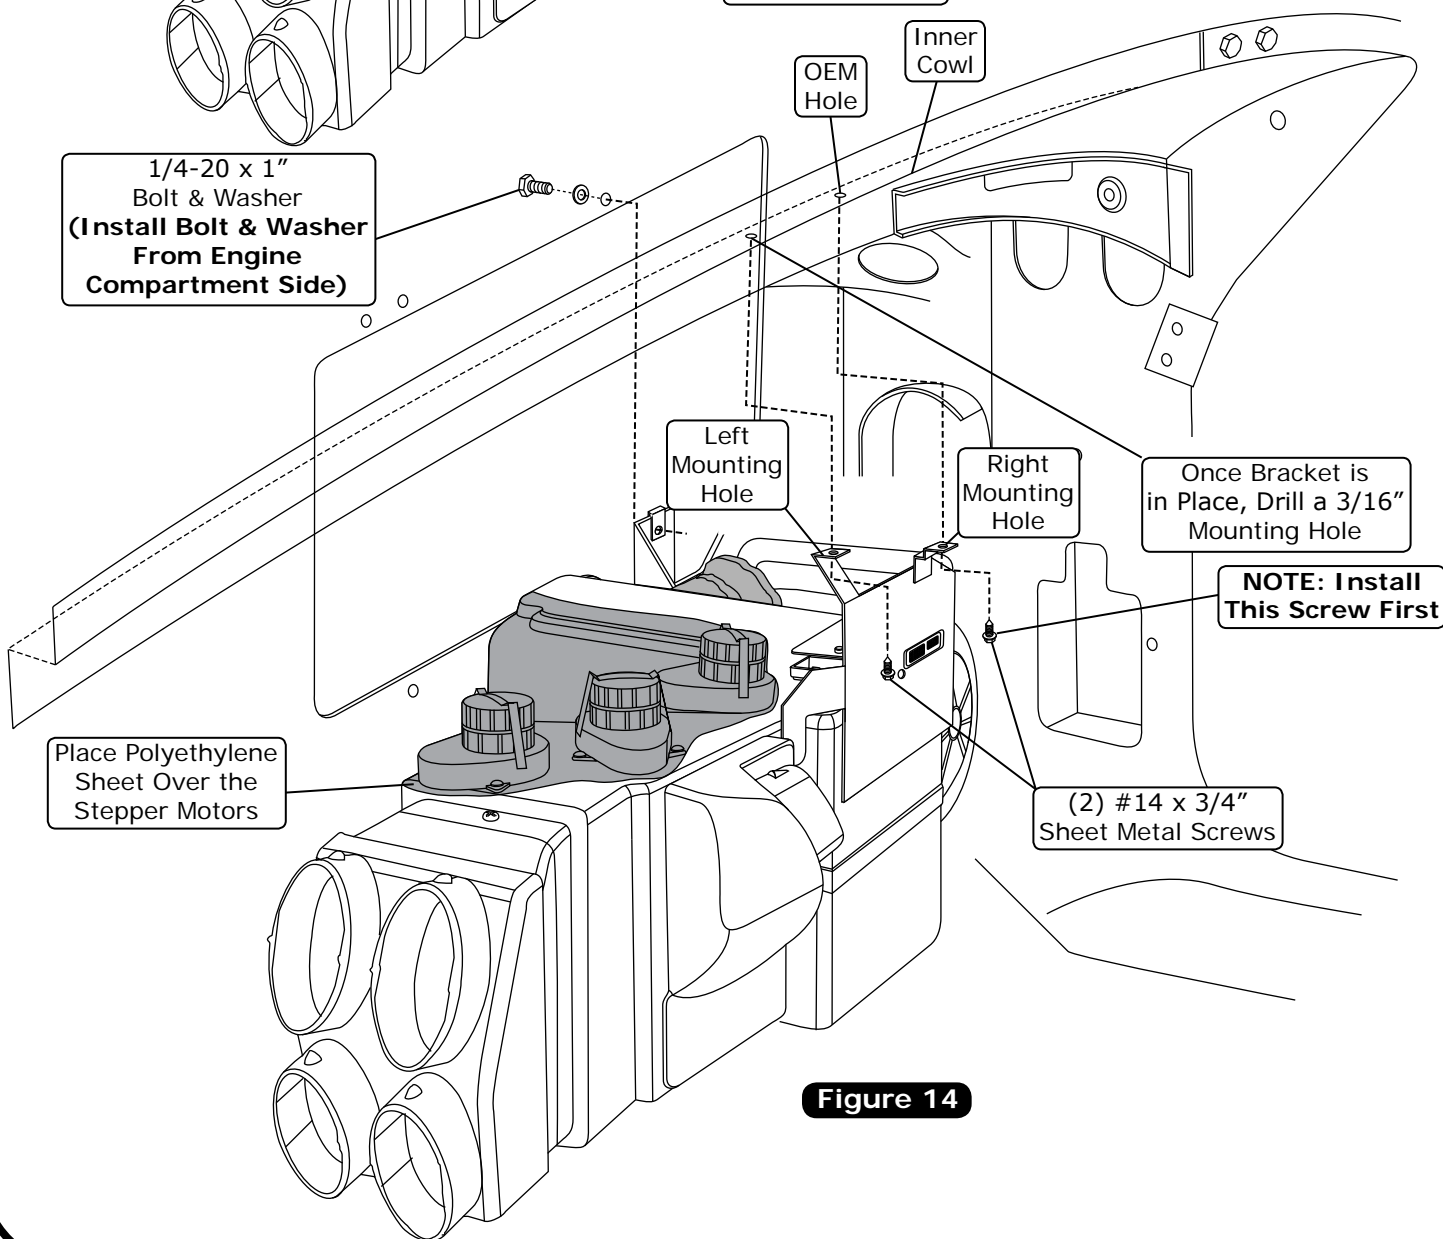

Figure 14
3. Place polyethylene sheet over the stepper motors (See Figure 14, Page 16).
4. Lift evaporator unit up under the dashboard (See Figure 14, Page 16). Secure loosely to the firewall using a 1/4-20 x 1" bolt and washer (See Figure 14, Page 16). **NOTE:** To ensure proper drainage, it is very important that the evaporator is level, both left-right and fore-aft. Check for level on the flat portions of the case around the drain.
5. Using a #14 x 3/4" sheet metal screw, secure the front evaporator mounting bracket to the inner cowl by aligning the right hole in the front evaporator mounting bracket with the OEM hole in the inner cowl (See Figure 14, Page 16).
6. To secure the left side of the front mounting bracket, with the evaporator mounting bracket in place, drill a 3/16" hole in the inner cowl using the left mounting bracket hole as a guide. Secure the bracket to the inner cowl using a #14 x 3/4" sheet metal screw (See Figure 14, Page 16).